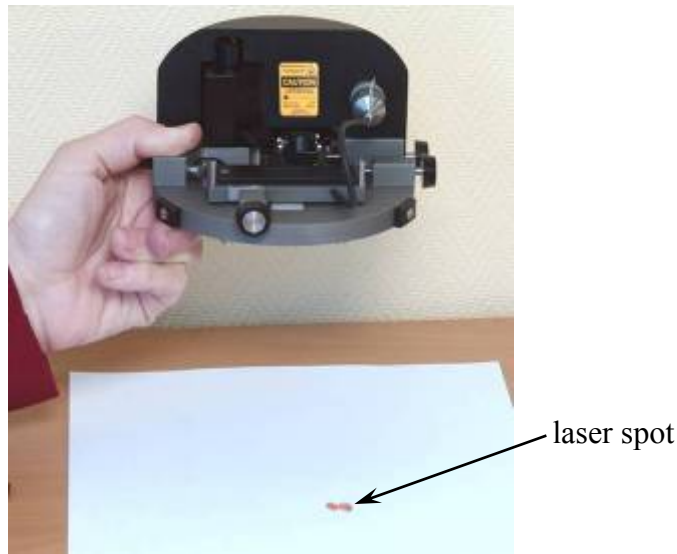

Fig. 2-5
4. Take the measuring head and lift it about 10-15 cm above a sheet of paper using the latter as a screen for observing the shape of the laser spot (Fig. 2-5).